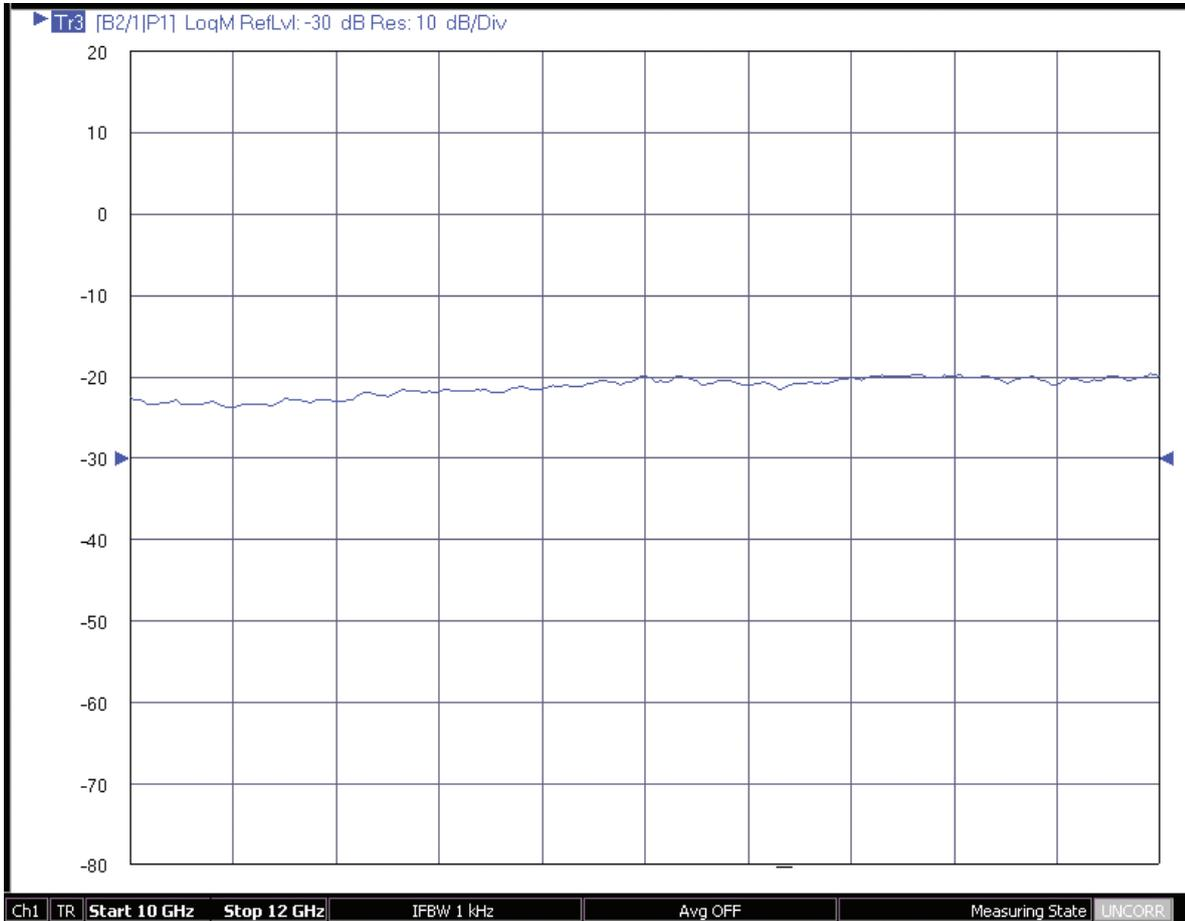

Figure 11: Example swept frequency IMD measurement
- 4) Your display should now look like Figure 11, which shows the upper 3rd order intermodulation product swept in frequency from 10 GHz to 12 GHz. To get the lower 3rd order intermodulation product, one would set the Receiver offset to -5 MHz instead of 10 MHz.
- 5) Figure 11 shows the swept frequency 3rd order IMD measurement in dBm. To get the IM3 product in dBc (either relative to the Lower or Upper fundamental tones). One would save this trace into trace memory and then take a swept measurement of the desired fundamental carrier tone across the same frequency span. Then, perform a trace math function with this trace and the saved IMD measurement using the Data/Memory option. The resultant graph/data will be IM3 in dBc relative to the chosen fundamental tone. From the results of the math function and the power measurement of the fundamental, one can calculate and plot IP3 as a function of frequency.